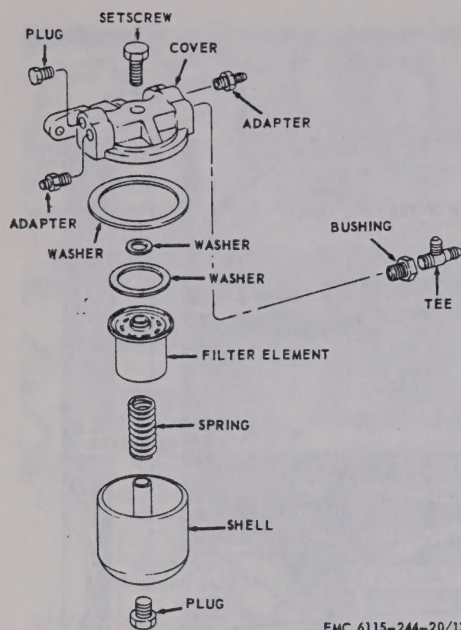

Figure 13. Fuel filter, disassembly and reassembly.
b. Disassembly. Refer to figure 13 and disassemble the fuel filter.
- (1) Clean all parts with an approved cleaning solvent and dry thoroughly.
STEP 2. LOOSEN SCREW (3) AND TURN COVER COUNTERCLOCKWISE TO OPEN CHOKE BUTTERFLY.
STEP 3. TURN COVER CLOCKWISE UNTIL CHOKE BUTTERFLY JUST CLOSES AND TIGHTEN SCREW (3).
d. Reassembly. Refer to figure 13 and reassemble the fuel filter.